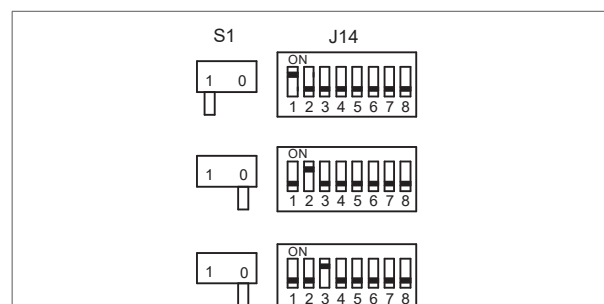

Figure 13 - Positions of the S1 and J14 switches for the first three air heaters in a system
1. Set the S1 and J14 switches on the control unit as follows (figure 13):